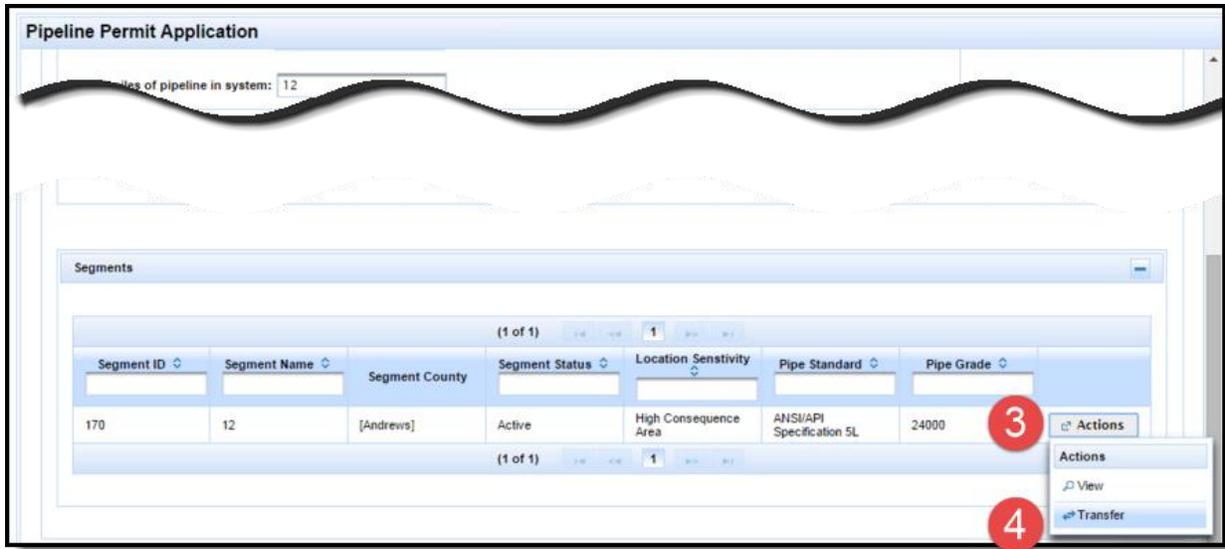

Figure 132: Supervisor Segment Transfer, Steps 3 and 4
2. Click **Transfer** on the dropdown menu. The Permit Header tab is displayed. Click the **System/Segment** tab, shown in Figure 132.